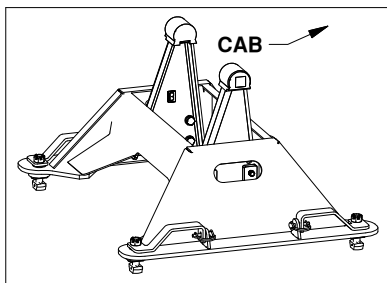
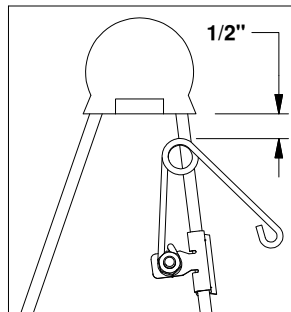

**Figure B1:**
**Figure B2:**
- Assemble kit.** Locate the 1/4" cap screw and nut, along with the wire tension spring and mounting clip. Pass the 1/4" cap screw through the mounting clip and the wire spring as shown in Figure B1. Thread the 1/4" lock nut onto the 1/4" cap screw. Tighten the lock nut just enough that the spring will stay in place but will still be able to rotate around the bolt if needed, see Figure B2.